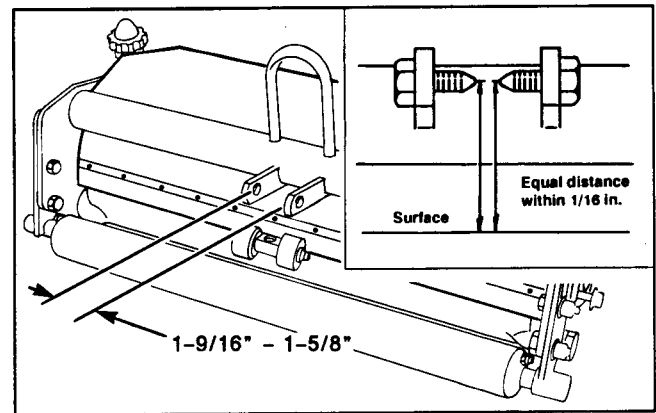

Figure 26
9. With frame on level surface and pivot set screws installed, measure from flat surface up to end of each setscrew (Fig. 26). If not within 1/16 in. of each other, carefully bend frame supports to line up screws. Remove pivot set screws. Measure distance between frame pivot supports (Fig. 26). If dimension is not between 1-9/16 in. and 1-5/8 in., carefully bend supports until correct.